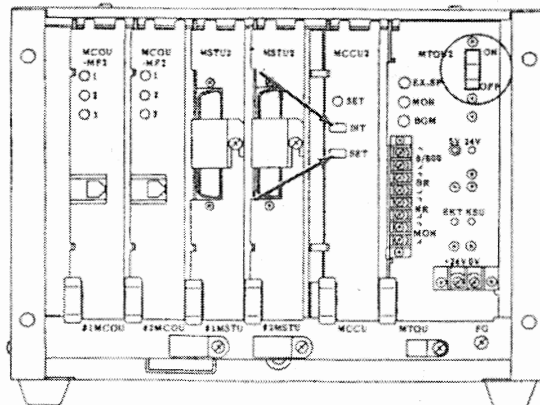

FIGURE 23
**09.03** To initialize the system data memory, refer to Figure 23 and perform the following steps: